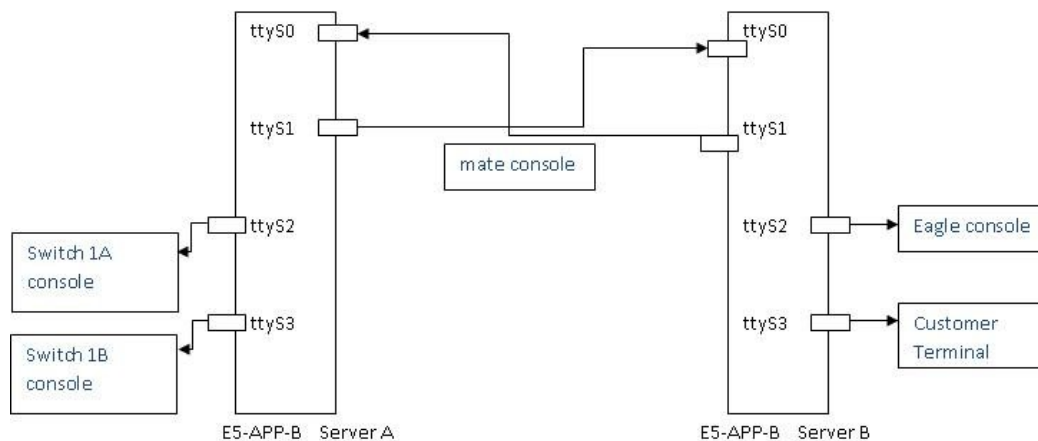

Figure 40: E5-APP-B on ELAP Console Connectivity
1. Connect the workstation you will use as the Local Access Terminal to Serial port `ttyS0` on the server (see Figure 40: E5-APP-B on ELAP Console Connectivity).
2. Reconnect the original cables as shown in Figure 40: E5-APP-B on ELAP Console Connectivity.